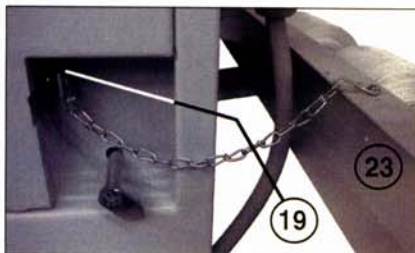

fig. 3
2. Secure the end of the chain of the baler safety switch activator (19) to the cross beam (23) of the shredder base, using the appropriate bores (fig. 3).
3. Insert the actuator (special key) of the safety switch activator (19) in the limit switch at the baler (fig. 3).
- 19 = safety switch activator (fig. 3)